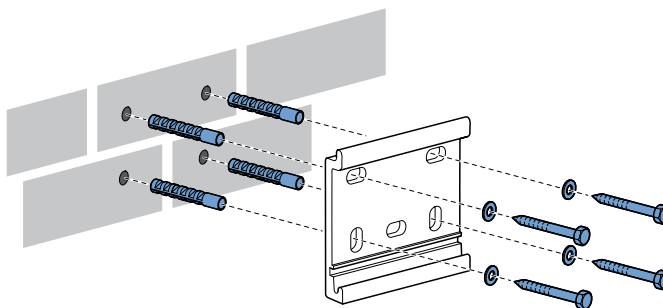

fig. 1.2 Mounting the wall supports
Attention! Size X is the width of the awning without side covers. Make sure that there are at least two holes in the middle of a stone. View figure 1.2.
Drill the mounting holes. Our advise is to drill with a 14 mm masonry drill in case of a wall made of concrete or stone. Use matching plugs and bolts of high quality. Mount the wall supports (A) and potential the intermediate support(s) (B) and tighten the bolts. View figure 1.2.